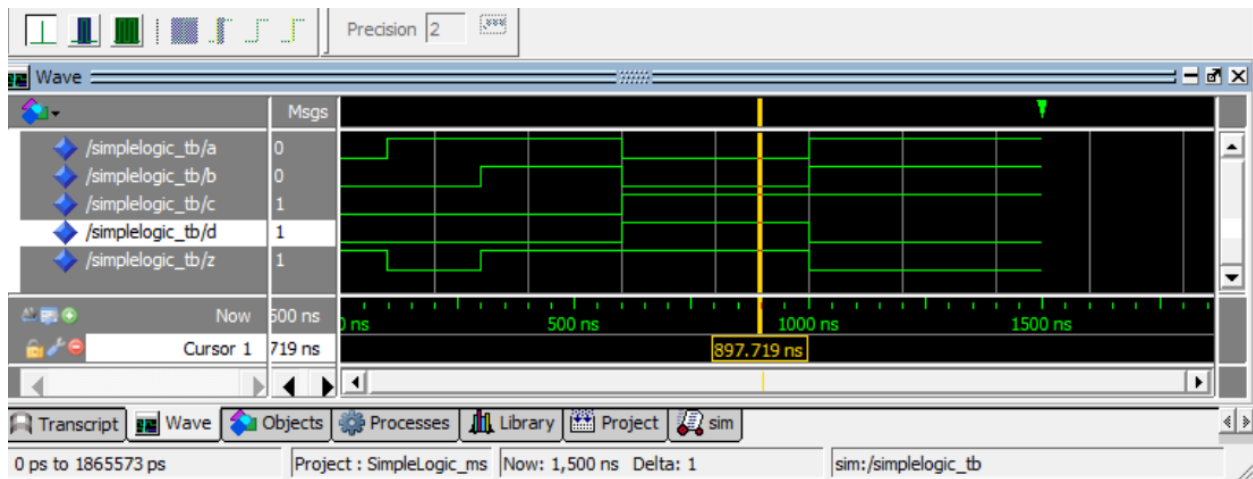

Figure 7
6. You can use ‘Ctrl +’ and ‘Ctrl -’ to zoom in and out. **Figure 7** shows the results of the simulation.